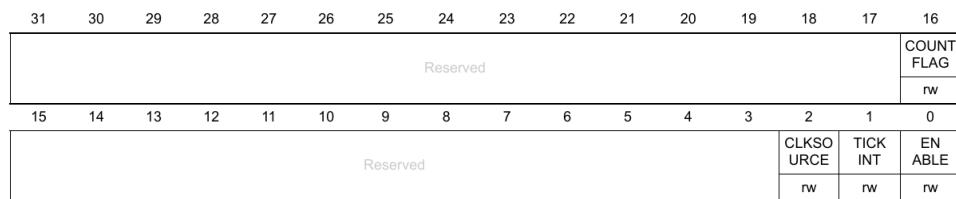

Fig. 11.5: Control Register (CTRL)
**Solution:** Fig. 11.5 shows the SysTick CTRL register. 0x00010000 is used in the above command to mask all the bits except for bit 16, which is the COUNTFLAG. The **while** loop will stop once COUNTFLAG = 0. The while loop is used for the delay.
**Solution:** From Fig. 11.5, ENABLE = 1 enables the counter (for delay) and CLKSOURCE = 1 enables the 8 MHz internal RC clock.